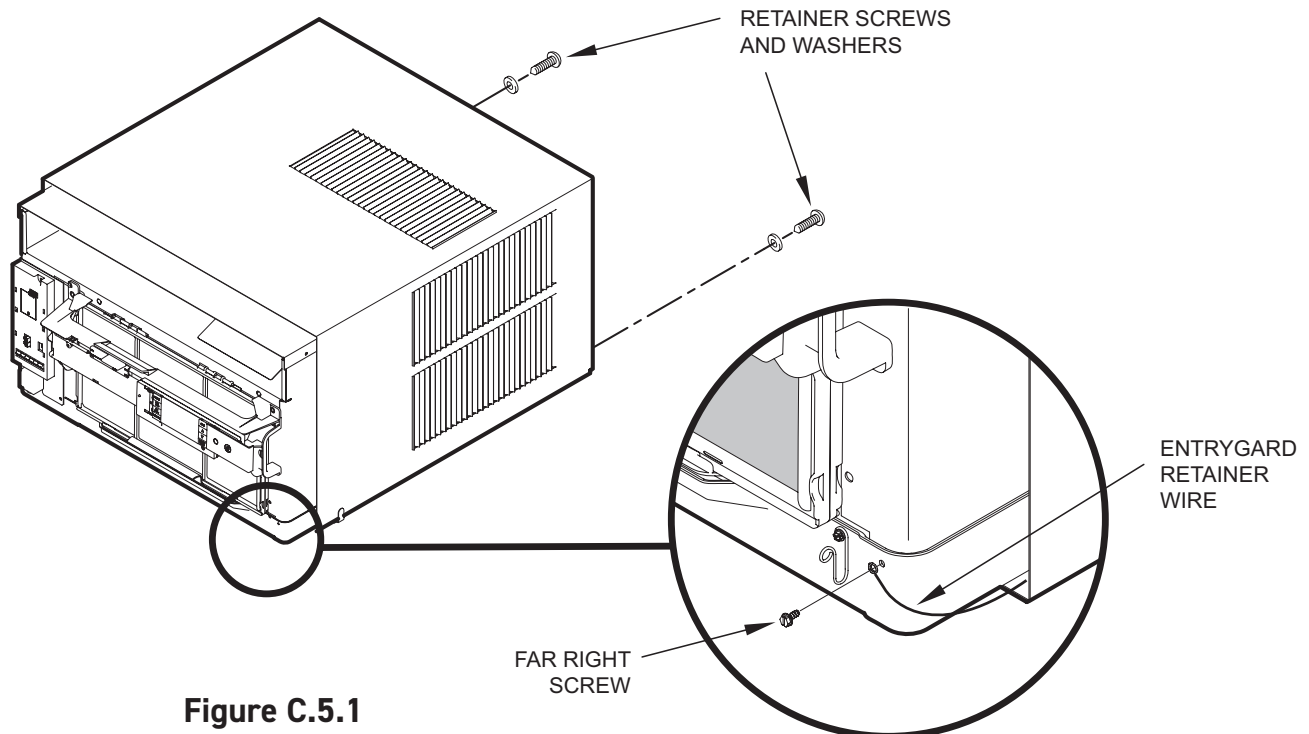

Figure C.5.1
STEP 1. Remove the chassis EntryGard™ retainer by removing the far right screw (see Figure C.5.1). Save this screw to reattach the chassis retainer after installation (Step 12). Also, remove and discard the two retainer screws and washer located at the rear of the unit (see Figure C.5.1).
STEP 12. Reattach the EntryGuard™ chassis and EntryGuard™ retainer wire with the same screw retained in Step 1 (see Figure C.5.1)..